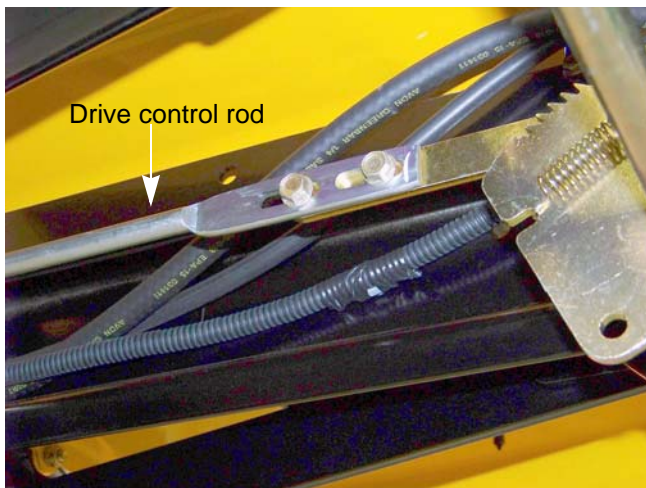

Figure 5.10
15. Loosen the two screws at the front of the drive control rods using a 3/8" wrench. See Figure 5.10.